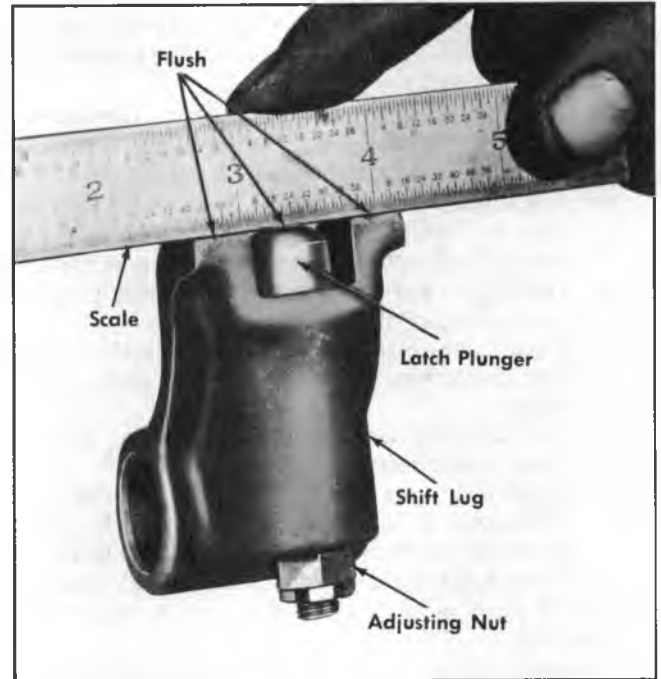

Fig. 13P—Adjusting Latch Plunger
- a. Install plunger spring and plunger in 1st and reverse shift lug and secure with adjusting nut. Adjust plunger so rounded end is flush or slightly above flat ends of lug (1/32" max.). Secure adjustment with cotter pin (fig. 13P).